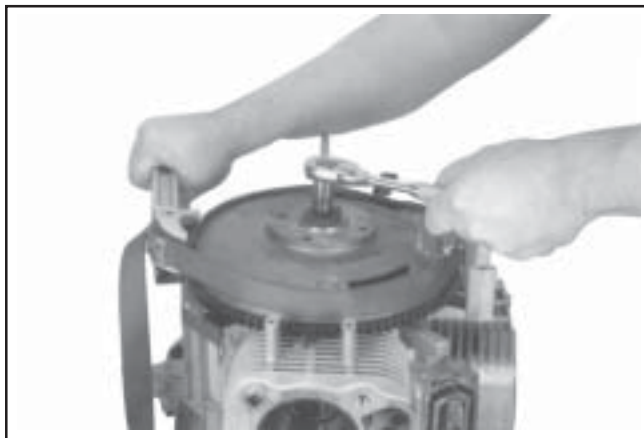

Figure 9-51. Removing Flywheel Fastener Using Strap Wrench.
1. Use a flywheel strap wrench or holding tool (see Section 2) to hold the flywheel and loosen the hex flange screw securing the flywheel to the crankshaft. See Figure 9-51.